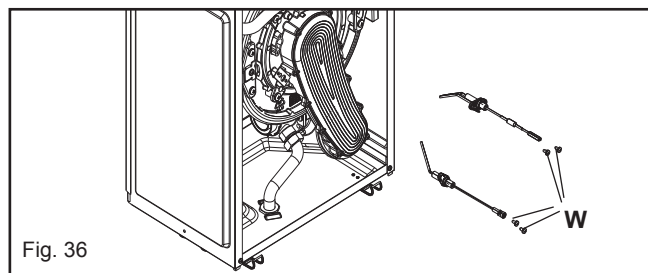

Fig. 36
6.13 ELECTRODES & CONDENSE SENSOR (fig. 36)
Carry out component removal procedure as described in 6.4. Unclip and remove the air chamber front and the RH side covers. Slacken the gas pipe (**A1**) at the air box connection and swing/rotate of the fan assembly. Locate and remove the 3 internal nuts (**F1**) which secure the fan assembly in position to the heat exchanger (**G1**). Disconnect the electrode leads and ancillary wiring from their respective connectors. Remove the retaining screws (fig. 36) for sensing electrode and remove. Gently ease the fan assembly out of its location. Ensure the seal is in good condition, taking care to ensure it is placed correctly. Replace in the reverse order.
Carry out component removal procedure as described in 6.4. Unclip and remove the three air chamber covers (front, LH, RH sides). Disconnect all the wiring connections. Fig. 36: Slacken the gas pipe (L1) at the air box connection and swing/rotate of the fan assembly. Remove fan and mixer as described in 6.14. Locate and remove the 2-screws that secure the heat exchanger retaining clips and remove clips (O1). Pull the heat exchanger forward and disconnect it from the flue collector (P1). The heat exchanger can now be withdrawn from the appliance. Replace in the reverse order. Ensure all seals are in good condition, taking care to ensure they are replaced correctly.